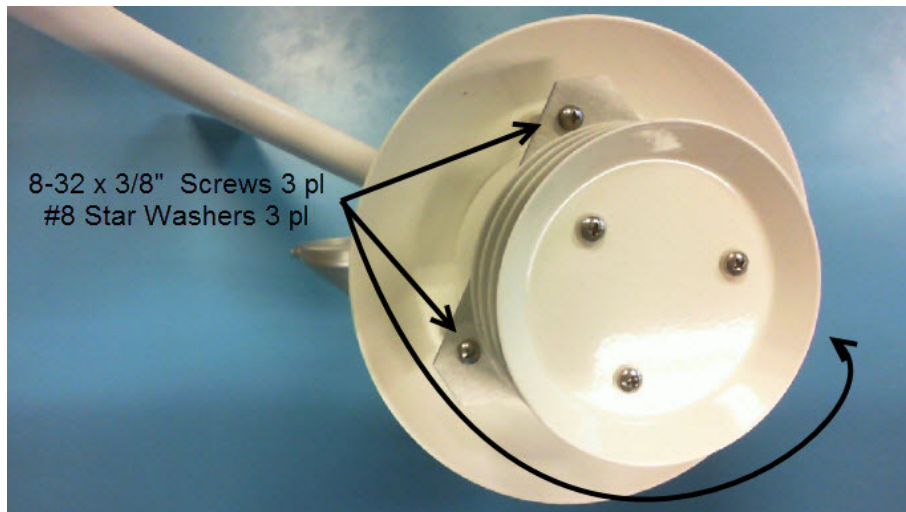

Figure 2
1. Remove the PCB Housing/Shield Assembly with a #2 Phillips Screwdriver by removing 3 ea. 8-32 x 3/8" Screws MOI PN 601710 and #8 Star Washers MOI PN 602270 from the Tri-mount Plate. See Figure 2.
6. Referring to figure 2, reinstall the PCB Housing/Shield Assembly with the 3 ea. 8-32 x 3/8" Screws and #8 Star Washers that were removed in step 1 of the Disassembly Instructions by lining up the Tri-mount plate and tightening the screws. The Tri-mount plate has one flattened corner that is longer than the other two. This longer flattened corner should be positioned on the south side of the MSO opposite of the mounting arm.